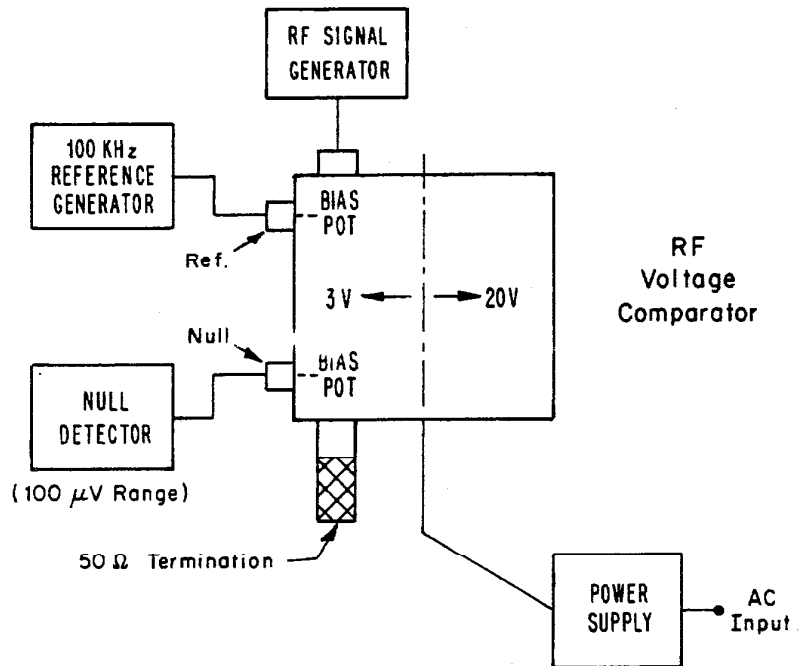

Figure 7. Block Diagram for Calibration of
- c. Connect the equipment as shown in figure 7.